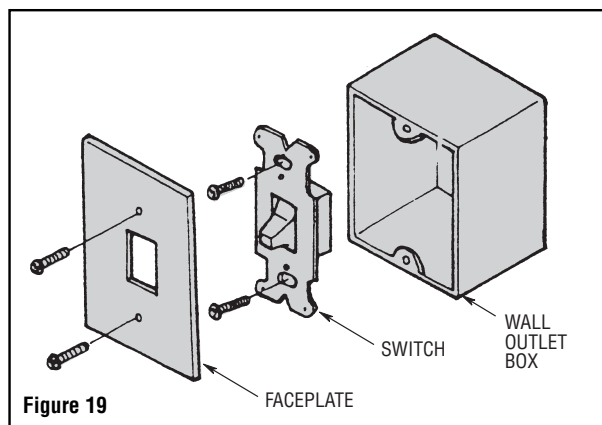

Figure 19
8. Disconnect wire from existing fan wall switch (Figure 19).